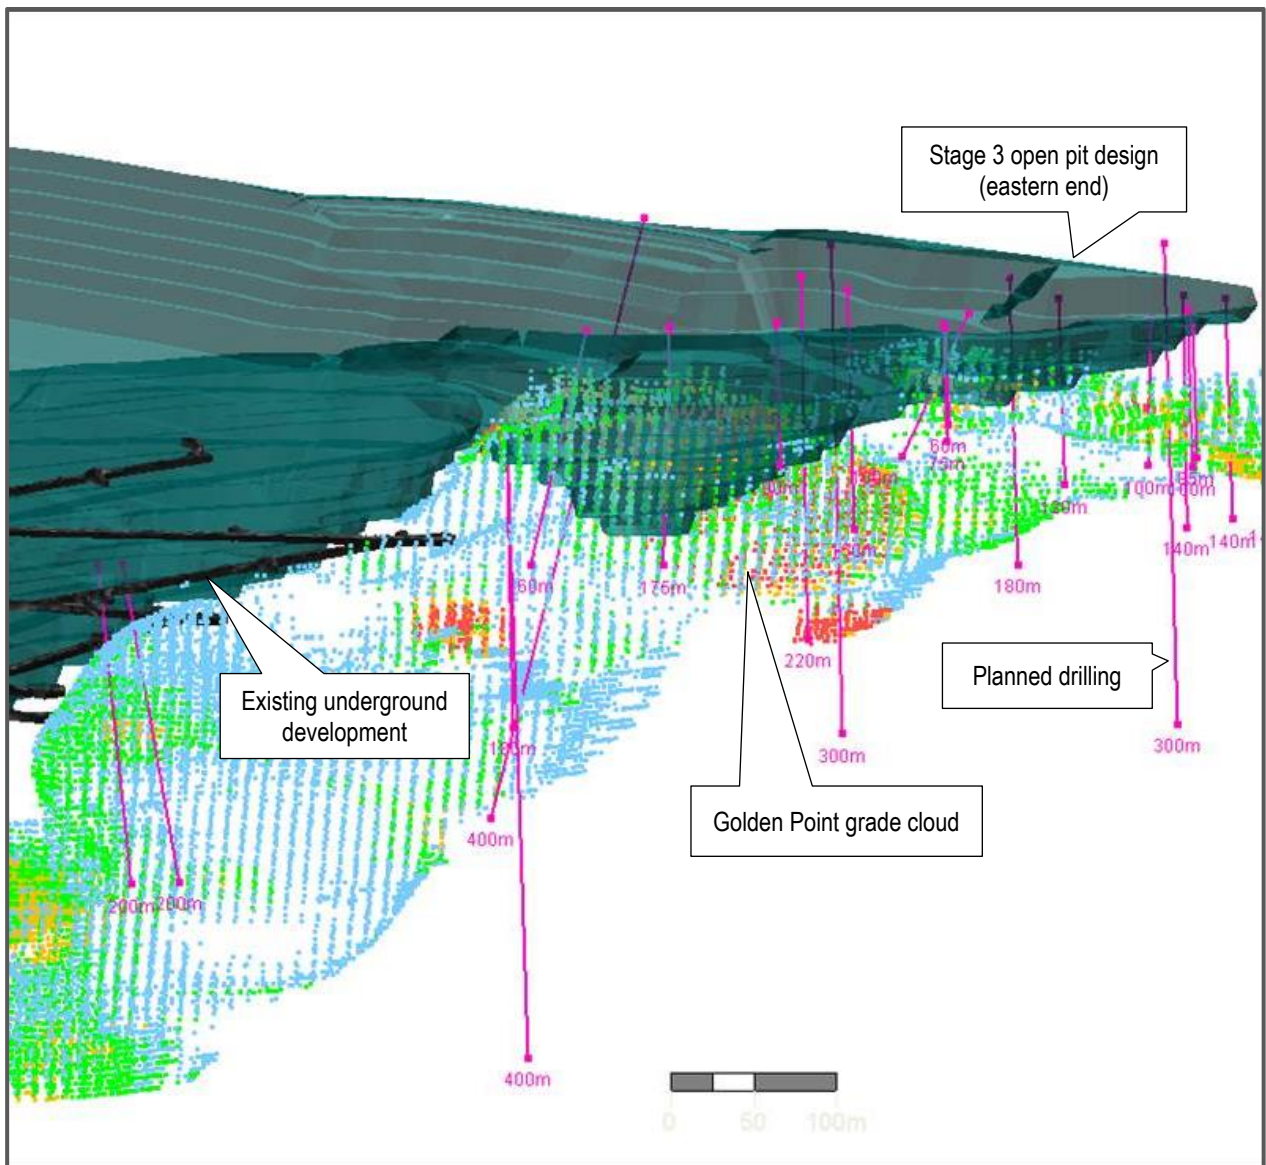

Figure 9 – Eastern end of Stage 3 open pit, with Golden Point Gneiss grade cloud currently outside of pit
- RC drilling of Golden Point, with potential to provide additional shallow ounces that may lead to increased ounces and improve financial metrics (refer Figure 9)